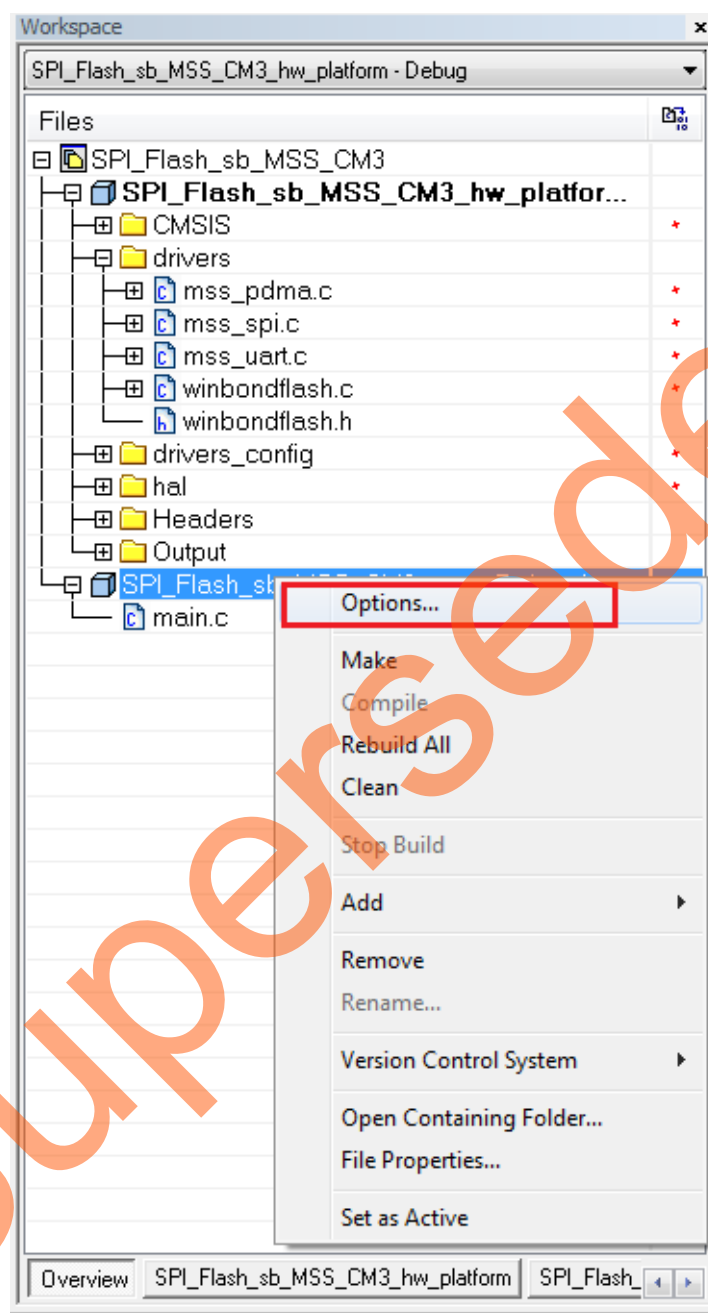

Figure 27 • IAR Workspace Window - Choose Options
12. To configure the project, right-click the project name (SPI\_Flash\_sb\_MSS\_CM3\_app), and click **Options**, as shown in Figure 27.